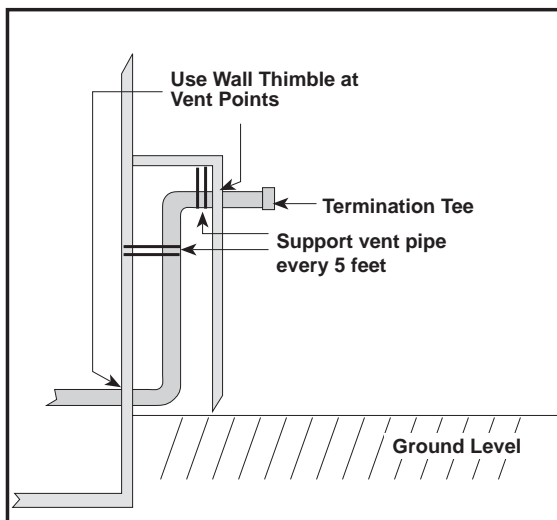

Figure 22. Alternate Horizontal Vent Installation
1. The termination tee must be 12 inches above snow level or grade level which ever is higher. See Figure 22 for alternate method to achieve 12" above snow level.
4. When penetrating a noncombustible wall, the hole through the wall must be large enough to maintain the pitch, pipe clearance for passage, and provide for proper sealing. Penetrating a combustible wall requires the use of a wall thimble. (See Figure 22.) A 6-1/2 inch square framed opening is required to insert the thimble halves. The thimble is adjustable to varying wall thickness and is held in place by applying sealant to the male sleeve before assembly. Also run a bead of sealant around the outer wall thimble.